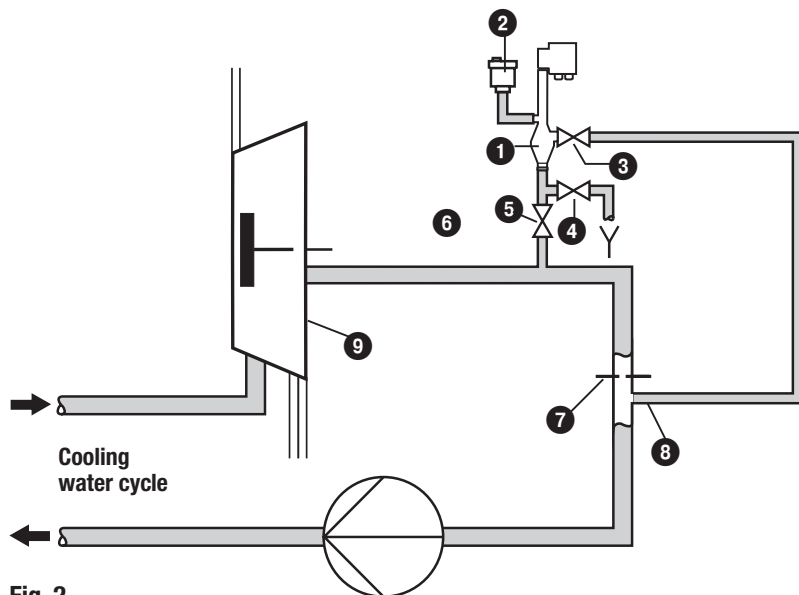
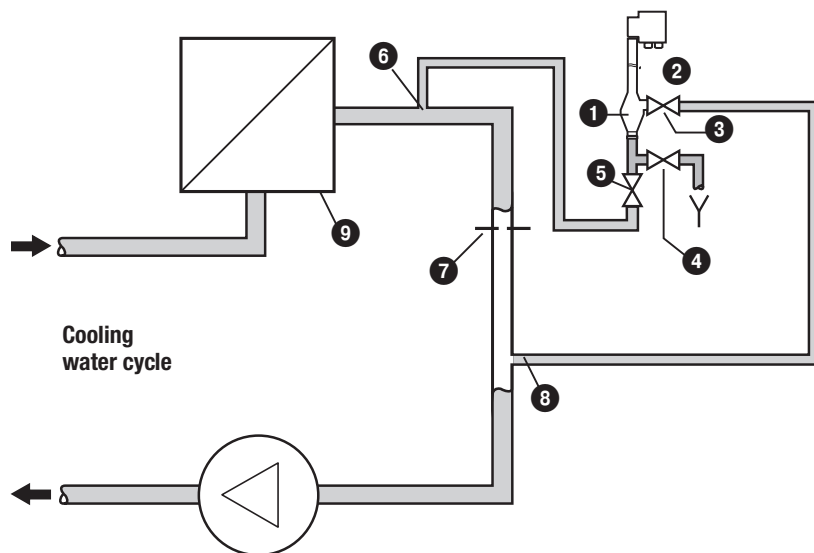

Fig. 2
Fig. 3
- Please refer to the examples of installation on page 10, **Fig. 2**, **Fig. 3**
- **Fig. 2** Recommended installation for an optimum arrangement of the measuring pot.
- **Fig. 3** Recommended installation if the measuring pot must be mounted at a lower point